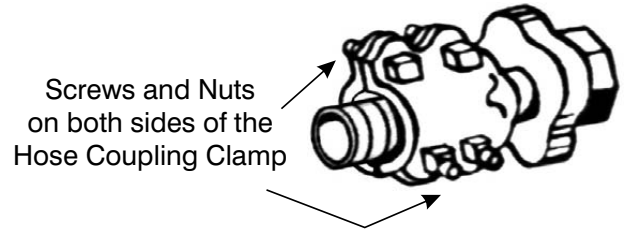

Figure 11-6. Coupling Clamp Hardware
- a. Refer to Figure 11-6, and verify that all four sets of screws and nuts are assembled on the Coupling's hose clamp. Inspect the threads for wear or damage. Replace missing or damaged nuts and screws, or obtain a new Hose Coupling with Clamp (17).